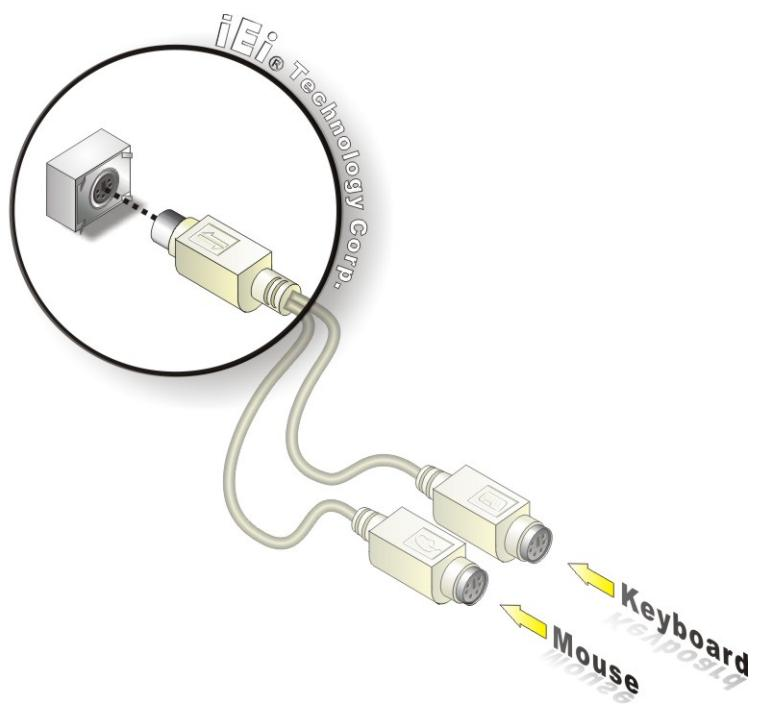

Figure 4-29: PS/2 Keyboard/Mouse Connector
Step 2: Insert the keyboard/mouse connector. Insert the PS/2 connector on the end of the PS/2 y-cable into the external PS/2 connector. See Figure 4-29.